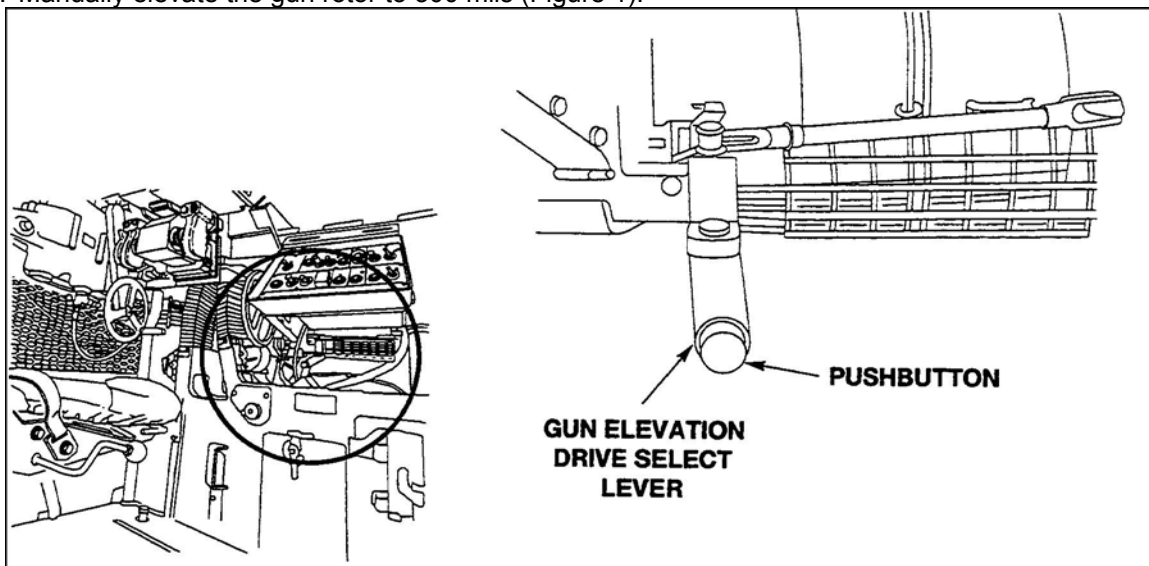

Figure 1. Gun elevation drive and handwheel.
1. Manually elevate the gun rotor to 300 mils (Figure 1).